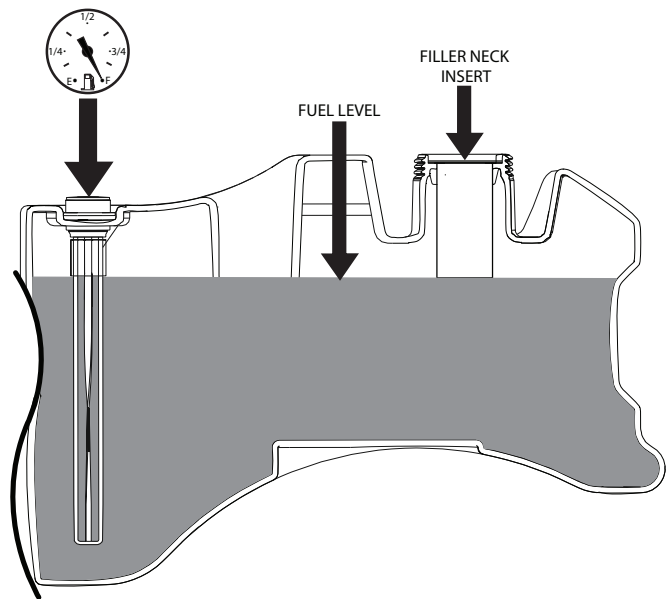

Figure 7-6. C.A.R.B. / EPA Phase 3 Fuel Level
Fill to the bottom of the filler neck insert (approximately 6-1/2 gallons on SPZ52/61 indicating Full (F) on the fuel gauge). See Figure 7-6. Do not overfill. Use clean, fresh unleaded gasoline with a minimum octane rating of 87 and a maximum of 10% Ethanol.